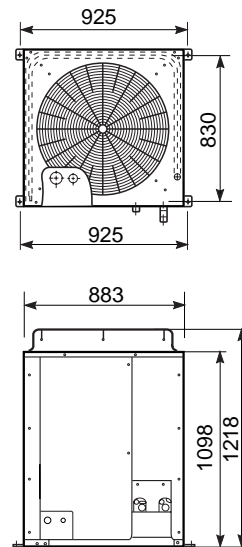

Fig. 4-3
- (2) The outdoor unit must be bolted down tightly to the blocks or platform with 4 anchor bolts. (Fig. 4-3)